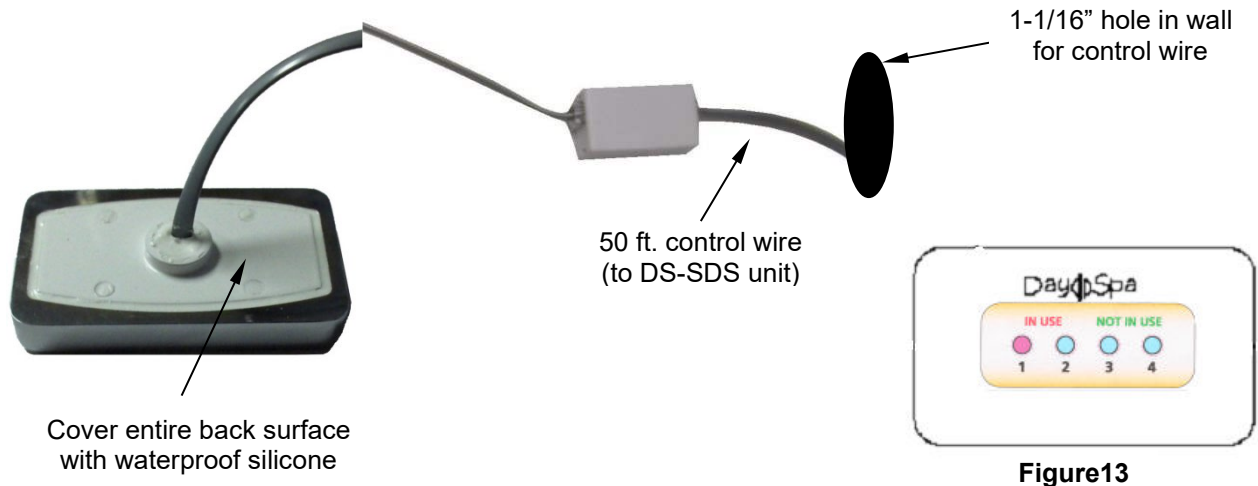

**Figure 12: Steam Distribution System**
4. Ensure the Steam Distribution System (DS-SDS) is powered-down (off). Connect the other end of the control cable to the Steam Distribution System (DS-SDS) at the Sentinel connection port (**Figure 12**).